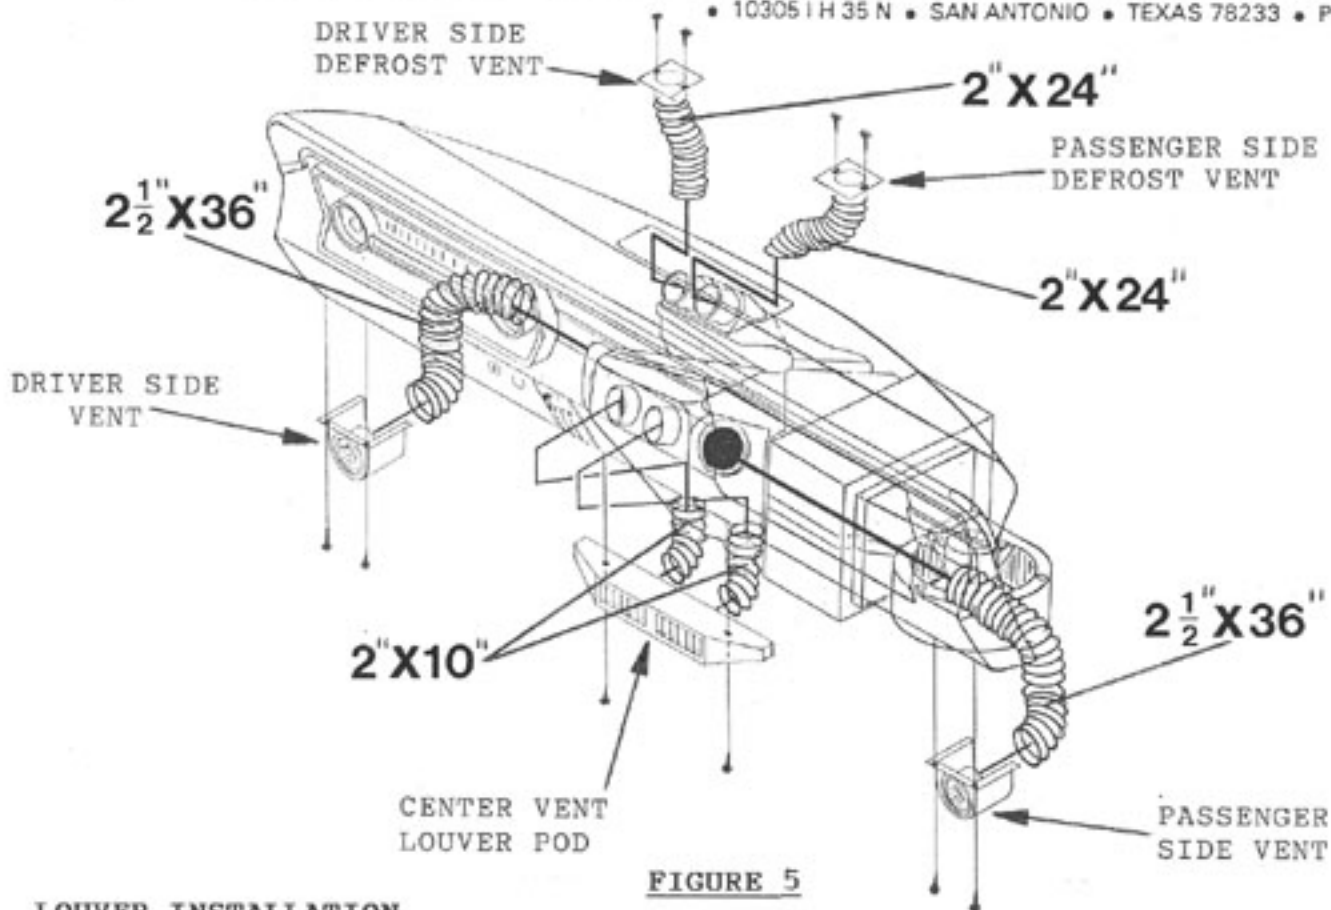

FIGURE 5
9. Install the driver side, center, and passenger side louver vents using sheetmetal screws (supplied) as Figure 5 shows.
10. Install both the driver and passenger side defrost ducts in the OEM dash holes using sheetmetal screws (supplied) as Figure 5 shows.
11. Stretch duct hose out to maximum length and cut the sizes indicated below; Route all duct hoses and attach to appropriate vent outlets as Figure 5 shows.